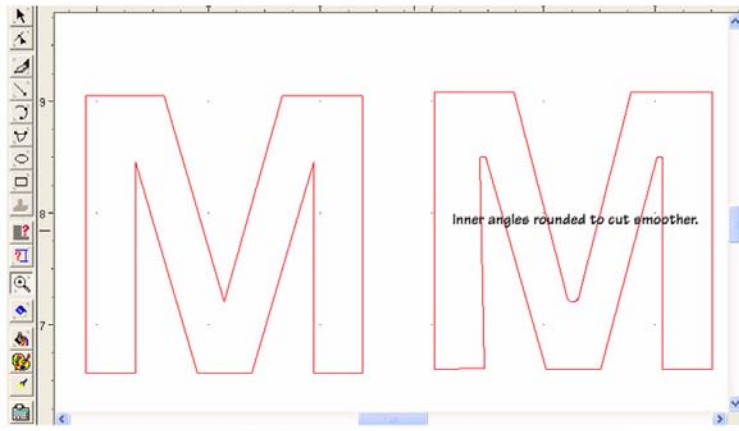
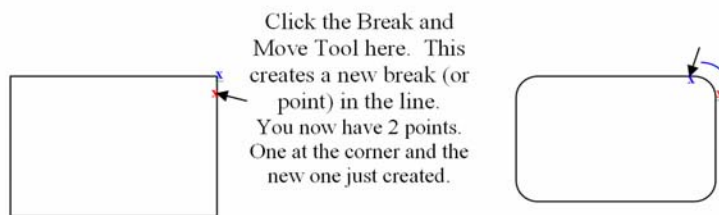

Figure 179
Figure 180
- Use the **Move Point** tool to move the point away from the break. Doing so creates curves instead of points. The curve is imperceptible to the eye but greatly eases cutting. See figure 179 and figure 180.